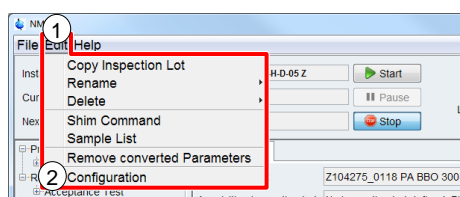

Figure 5-39: Configuration in menu
On the **Edit** menu shown in Figure 5-39 (1), click **Configuration** (2) to open *NMRPT* Configuration dialog.